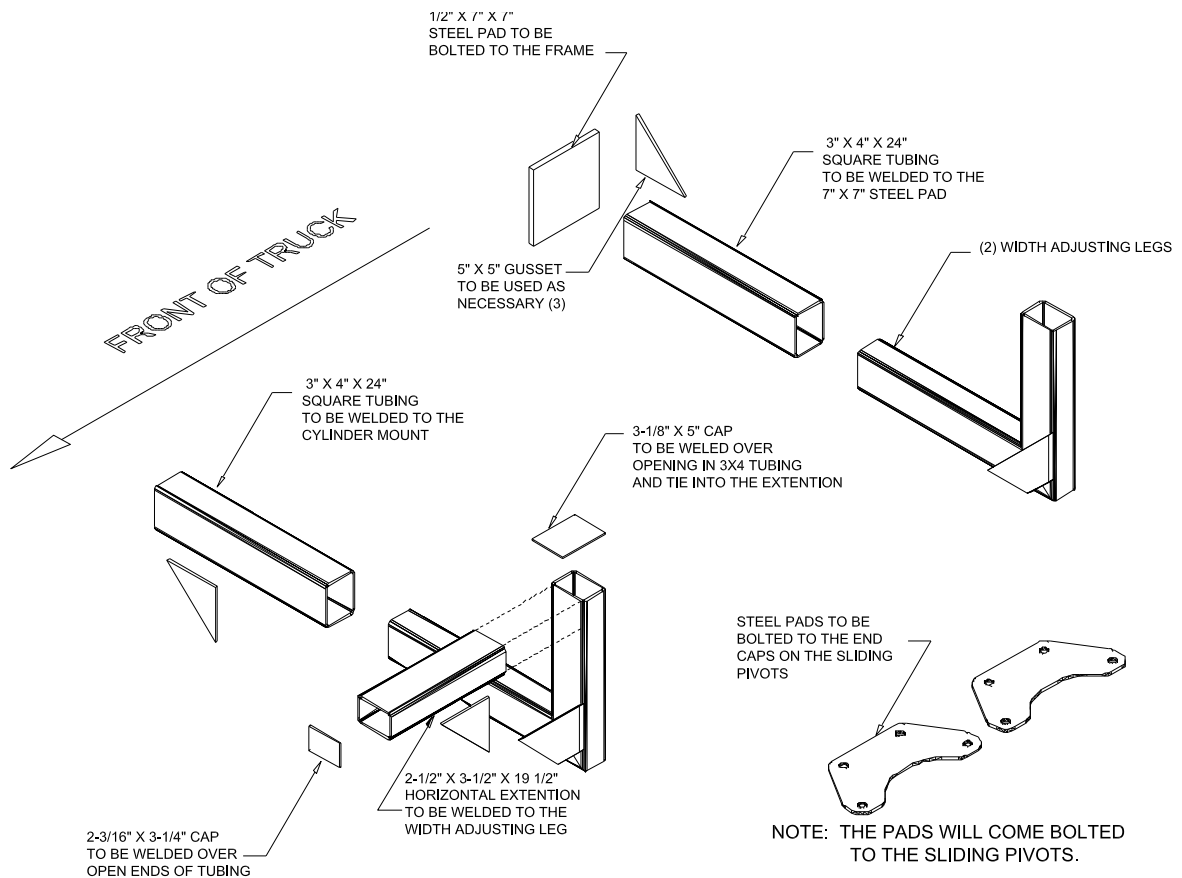

Figure 7
Note: The aluminum sliding pivots have part of the mounting kit attached to them already. (4 steel pads that are bolted to the cast end caps.) The rest of the mounting kit consists of (4) width-adjusting, "L" shaped legs, (4) single pieces of 3" x 4" square tubing, (2) 2 3/16" x 3 1/4" steel caps, (2) 3 1/8" x 5" steel caps, (2) 7 x 10 steel plates, and (2) 2 1/2 x 3 1/2 x 21" pieces of tubing. Refer to fig. 7 below.
4) Measure the length of the sliding pivots. Determine if you need to extend the mounts to get the center of the pivot pin in the sliding pivots to line up with the center point mark made earlier. Refer to figures 7 & 8 on following pages.
5) Cut the extension pieces to the desired length and weld them horizontally to the front and/or back legs of the mounts. Use the (2) pieces of 3 1/8" X 5" pieces of steel strap to tie the extension legs to the "L" shaped legs. Refer to Fig. 7 on next page and Fig. 4 on page 13 for parts descriptions.